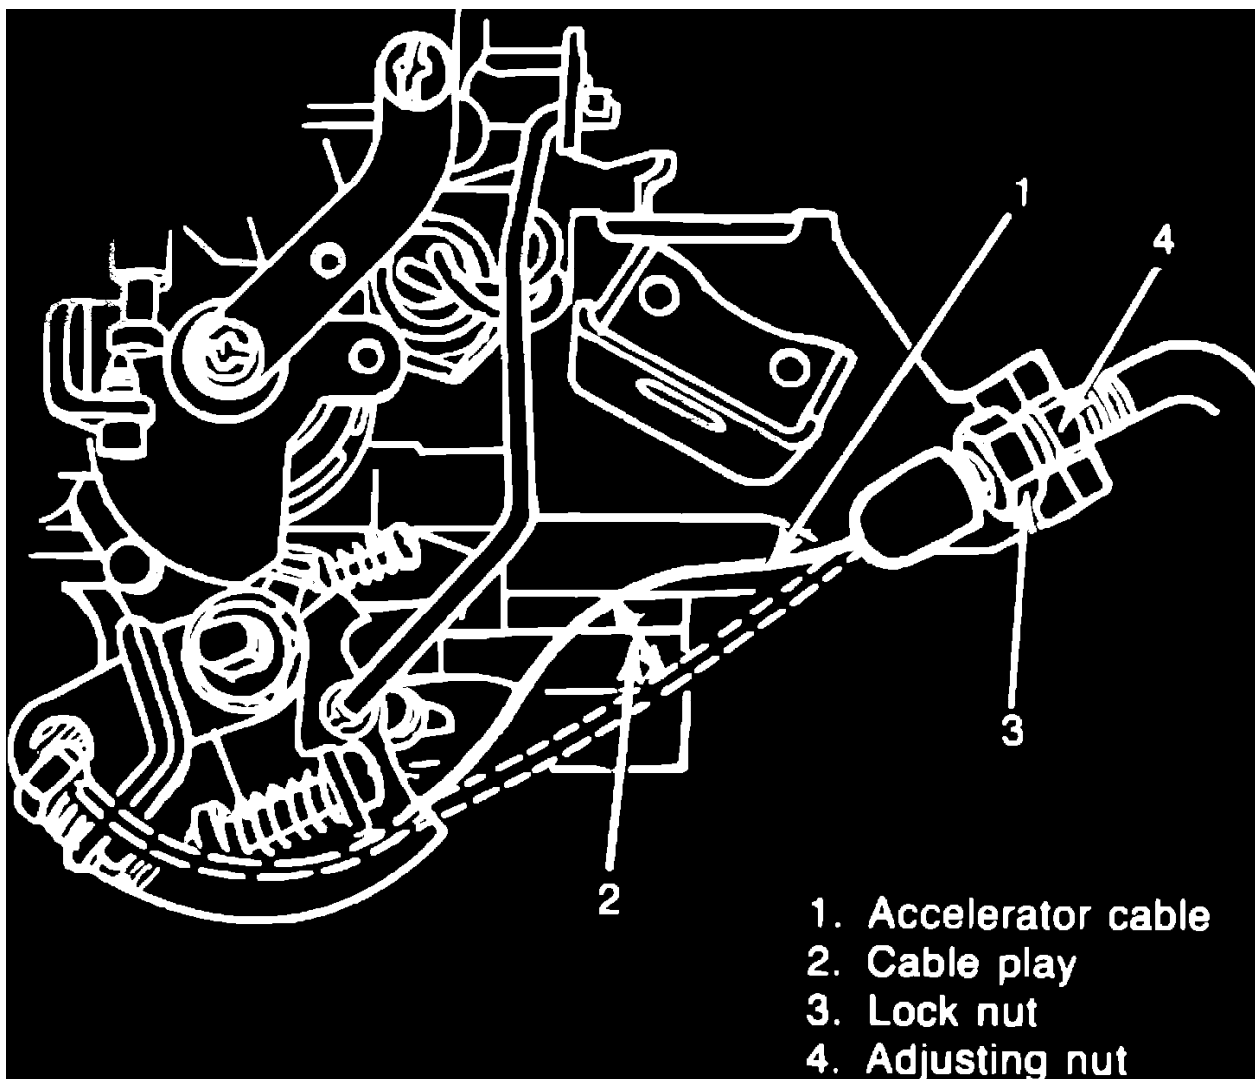

**Fig. 10 Mixture adjusting screw pin removal**
2. Drill hole in pin as shown in **Fig. 10**, using 4 - 4.5 mm drill bit.